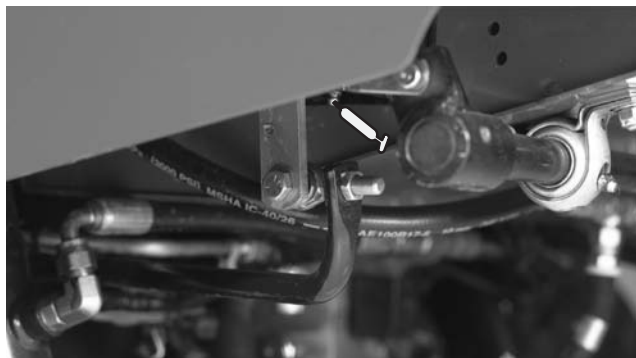

Figure 33
- Traction pedal pivot bushing (1) (Fig. 33)